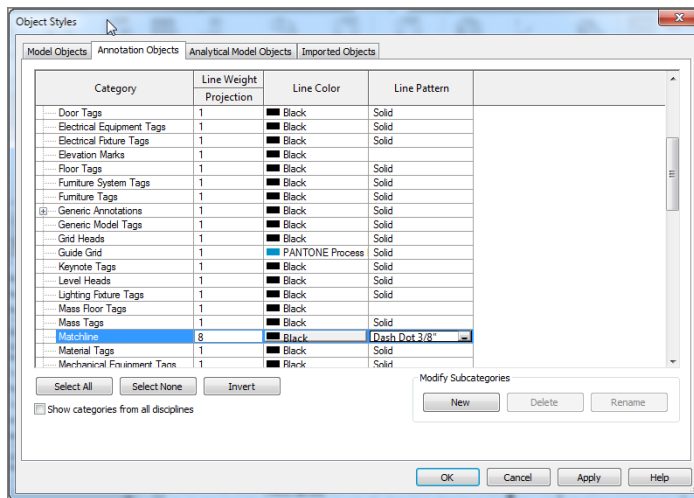

FIGURE 13.11 Changing the Matchline line pattern to Dash Dot 3/8"
2. Click the Annotation Objects tab, as shown in Figure 13.11.
5. You see a menu arrow. Click it, and select Dash Dot 3/8" (10mm) (see Figure 13.11).